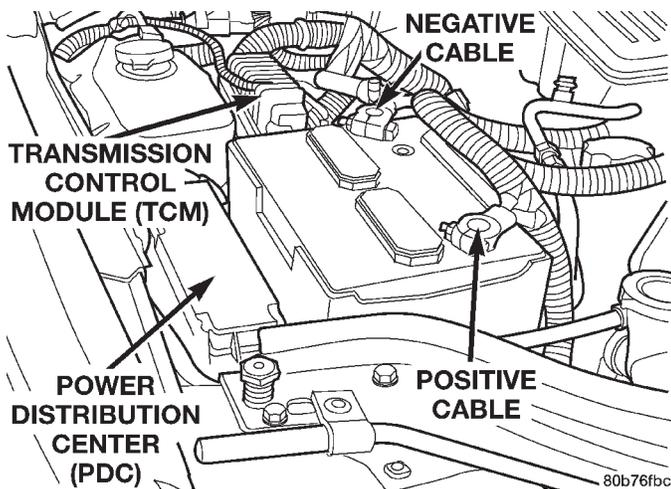

Fig. 35 Power Distribution Center (PDC)
(1) Disconnect and isolate the battery negative cable.
(2) Remove the cover from the Power Distribution Center (PDC) (Fig. 35).